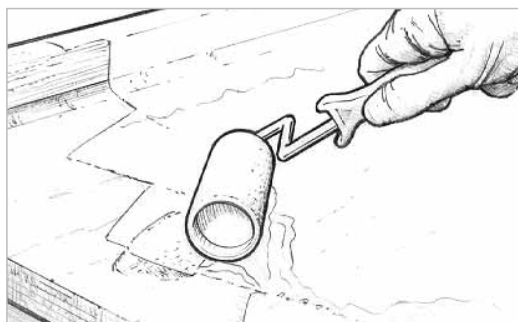

Figure 5-14 Wet out porous surfaces before applying thickened fairing compound.
2. Wet out porous surfaces with unthickened epoxy (*Figure 5-14*).